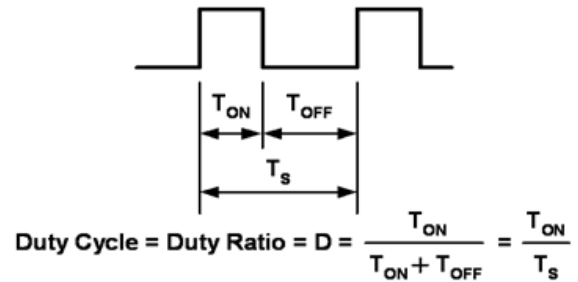

Figure 12.
the human eye will detect a flicker from the light emitted from the LEDs. Between 500 Hz and 20 kHz the circuit may generate audible sound. Dimming is achieved by turning the LEDs on and off for a portion of a single cycle. This on/off cycle is called the Duty cycle (D) and is expressed by the amount of time the LEDs are on (T_{ON}) divided by the total time of an on/off cycle (T_s) (Figure 12).